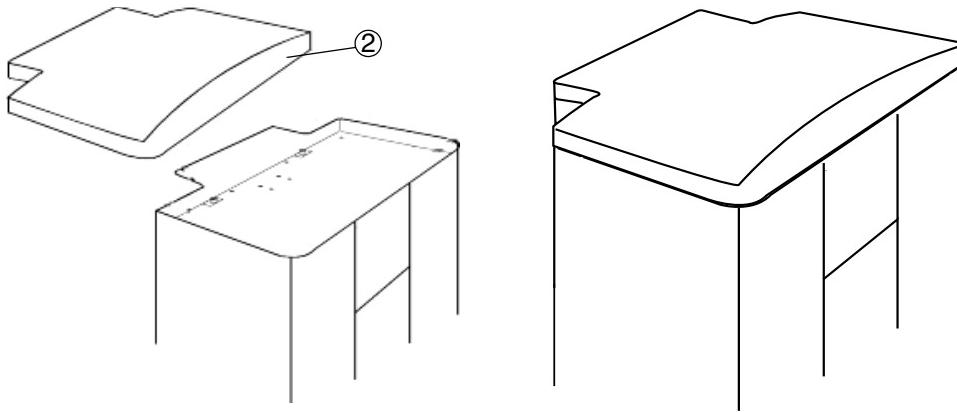

Fig. 4 Stand cap
1. Place the Stand cap on the top of the MAMMOMAT stand (2/Fig. 4).